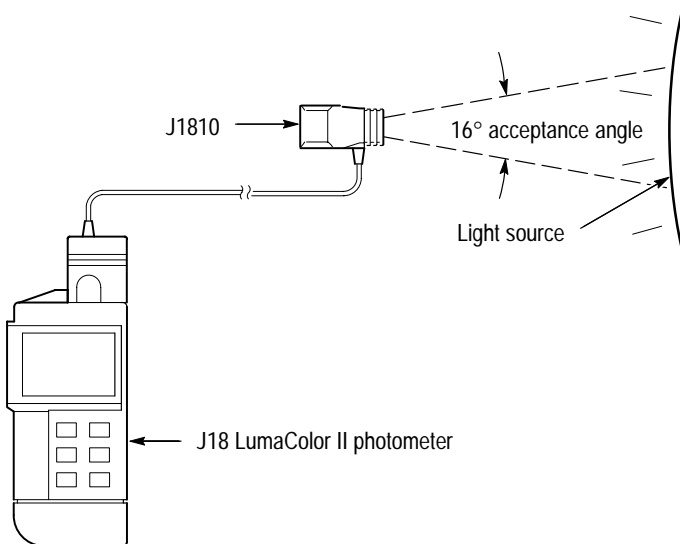

Figure 1–15: J1810 setup for light source measurements
3. Point the J1810 toward the light source, choosing a distance to ensure that the entire field of view is filled by the light source. Refer to Figure 1–15. (The acceptance angle of the J1810 is 16° . See *Operating Characteristics*, on page 1–32.)